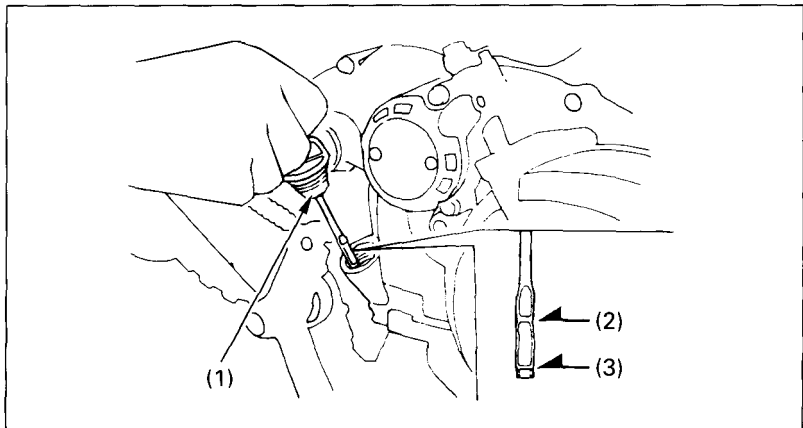

Fig. 4-11
4. After a few minutes, remove the oil filler cap/dipstick (1) (Fig. 4-11) from the right crankcase cover and wipe it clean.
5. Insert the dipstick without screwing it in, then remove the dipstick and check the oil level. The oil level should be between the upper level mark (2) and the lower level mark (3) on the dipstick.
1. With the FOURTRAX on level ground, remove the oil filler cap/dipstick from the right crankcase cover (Fig. 4-11).